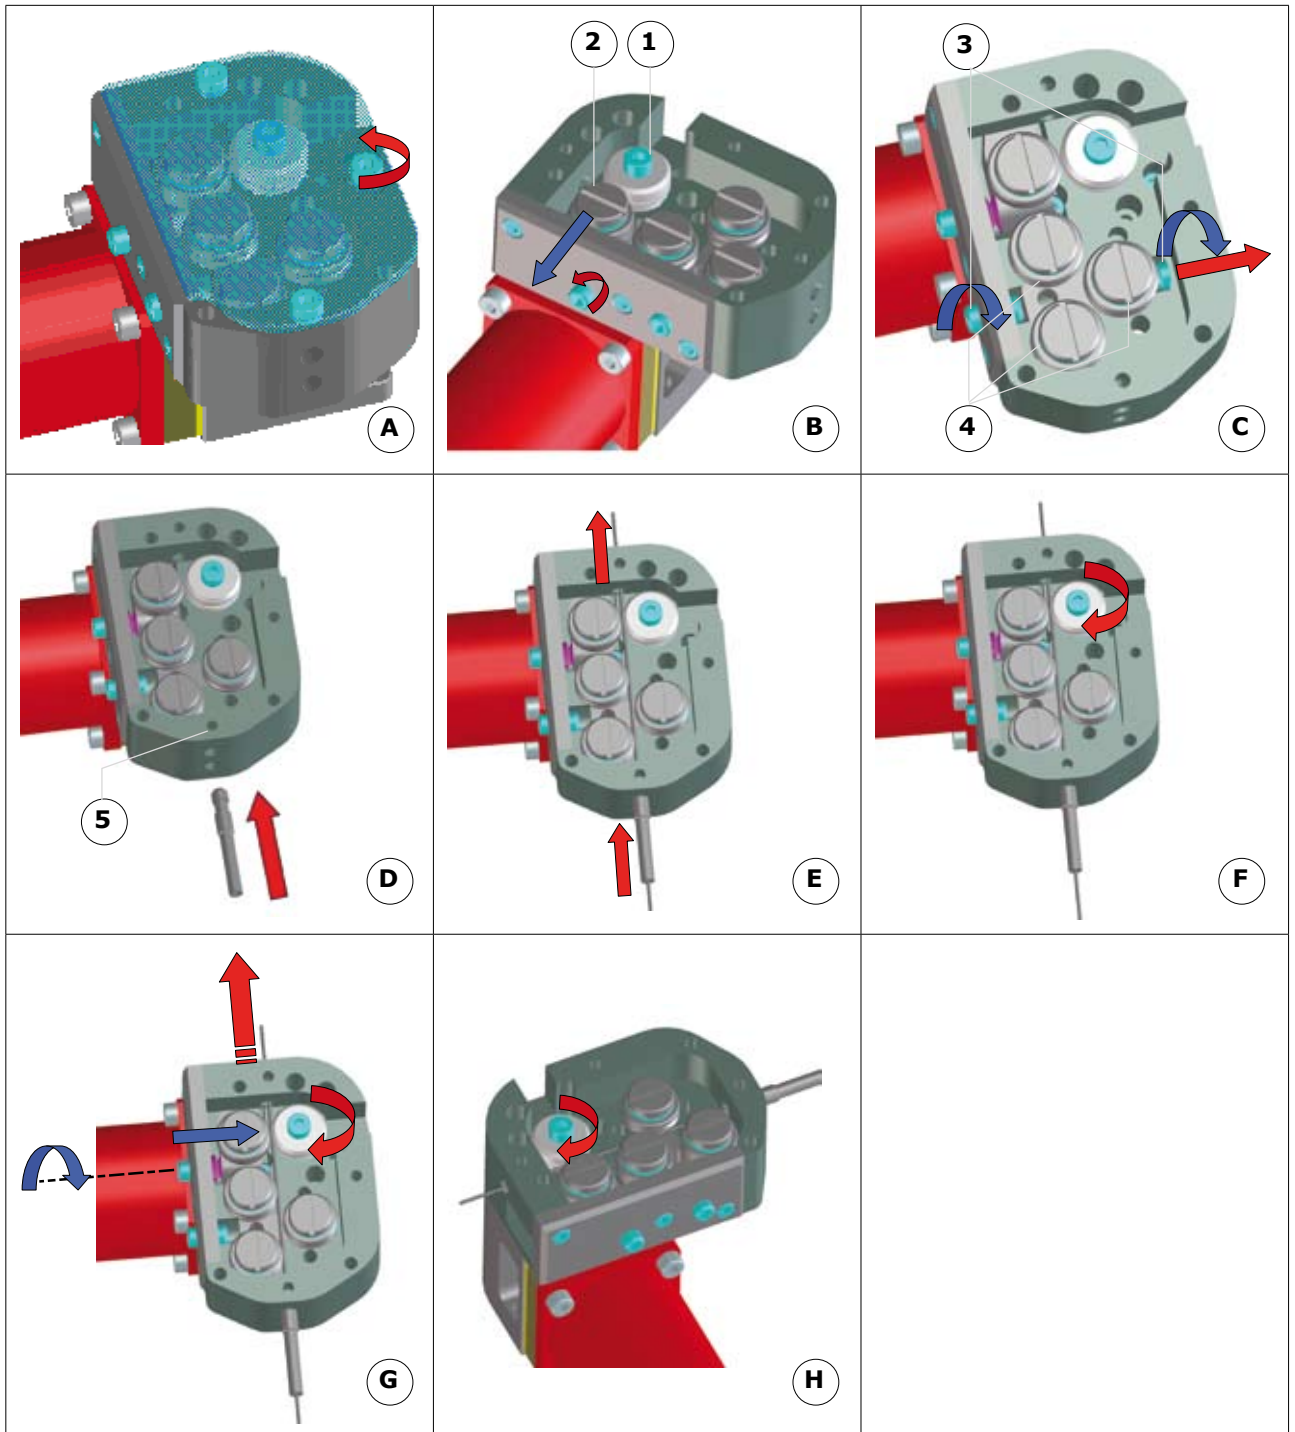

Fig.5.12 - Placing the wire
- Unscrew the screw M3 and remove the cover (Fig. 5.12-View A).
- Unscrew the adjustment screw for the gearing in order to move the feeder roller (12), away from the driving roller (1) (Fig. 5.12 - View B).
- Tighten or loosen either one of the adjustment screws (3) of the straightening roller (4), to move them apart (Fig.5.12 - View C).
- Mount the inlet of the feeder and the liner. The inlet is then held in place by the screw (Fig.5.12 - View D).
- Insert the wire into the assembly (Fig.5.12 - View E).
- Actuate "Auto Wire" (with the driving rollers rotating) (Fig.5.12 - View F).
- Screw on the adjustment screw for the gearing until the wire begins to be drawn, then tighten the screw by a 1/2 turn (3/4 max. turn) (Fig. 5.12- View G).
- Feed out a few centimetres then cut it closely to the feeder (Fig. 5.12 - View H)